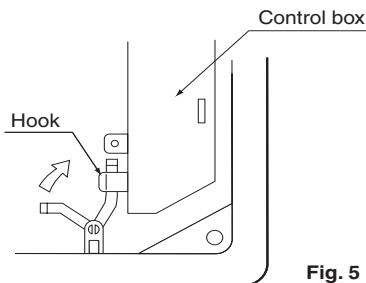

Fig. 5
Adhere the moisture absorber ⑦ in accordance with the reference line ⑦. (Fig. 5)
4. Hang the panel temporary suspension on the hook located on the control box of indoor unit. **(Refer to Fig. 5)**
- (4) Adhere the moisture absorbers for swing flap (5) (6) aligning with the upper edge of the swing flap on the air outlet. And, adhere the moisture absorbers for panel edge (7) with the panel edge on the air outlet. See (Fig.5).